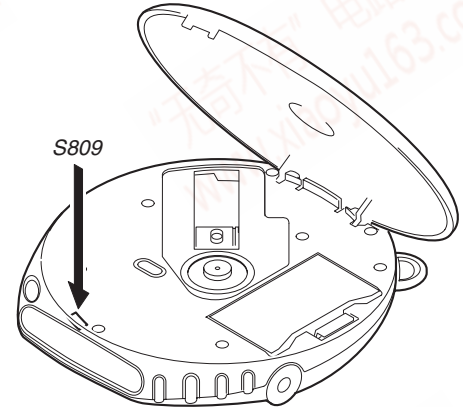

Fig.1 Method to push S809
2. Push the S809 as shown in Fig. 1 .